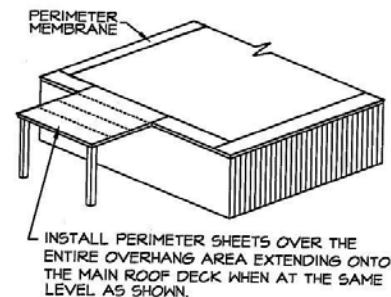

Figure 2
3. **Buildings with overhangs (Figure 2)** – The membrane must be specified with perimeter sheets installed over the entire overhang area extending onto the main roof deck when at the same level. As an option, an adhered membrane section may be used in lieu of the mechanically fastened membrane at building overhangs in accordance with the Mule-Hide Fully Adhered TPO Roof System Specification. See Detail MHT-MA-103B.